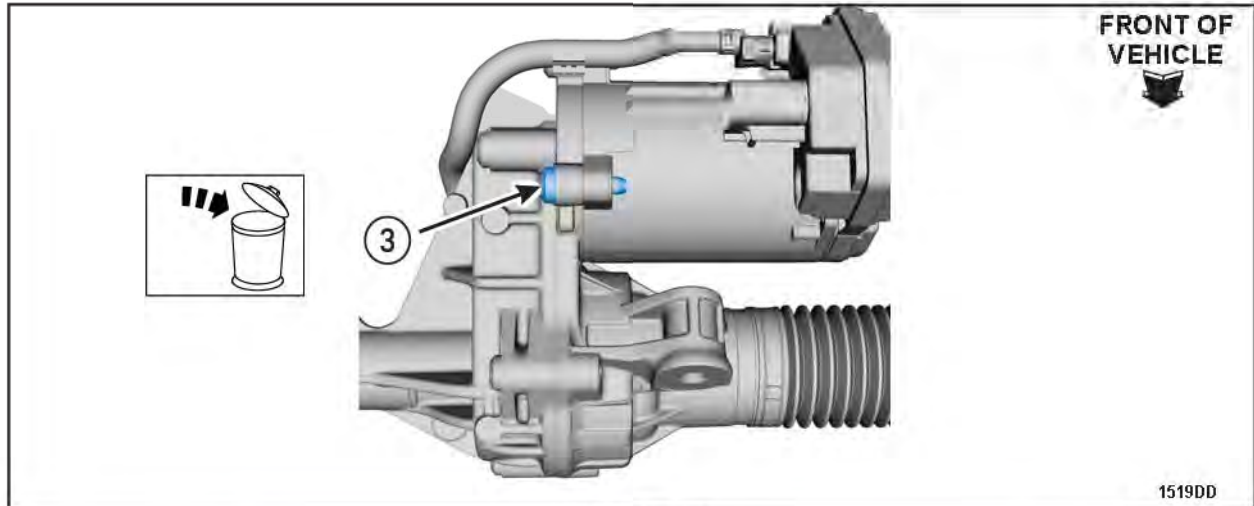

FIGURE 10
2. Working from the rear of the subframe, replace steering gear motor bolt three, then proceed to "Apply Corrosion Protection" on Page 6. See Figures 10 and 11.